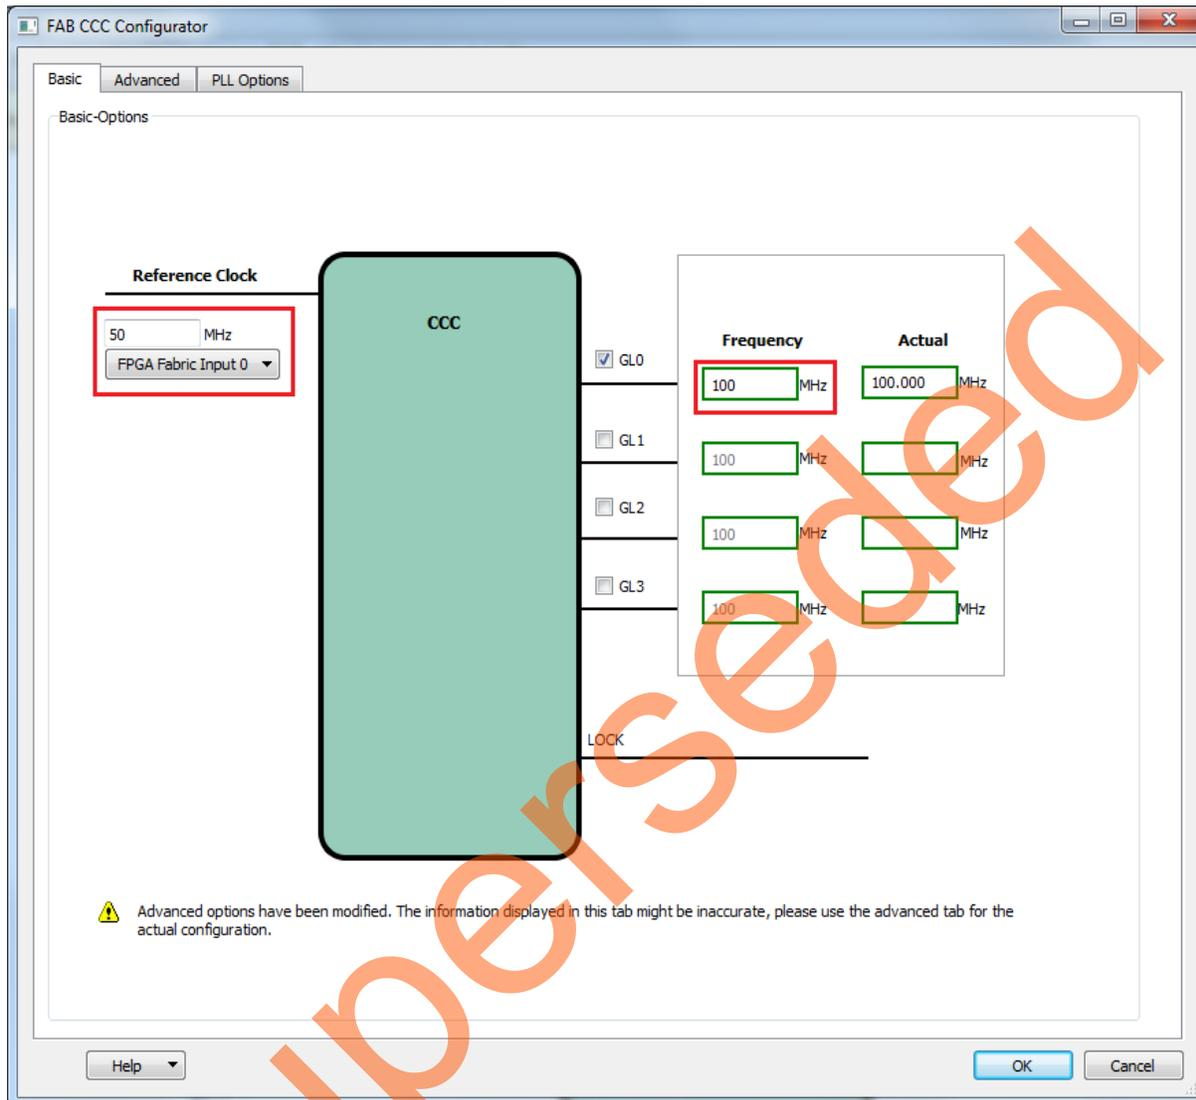

Figure 27 • Configure CCC
3. Double-click **CCC** to configure it. Figure 27 shows the **FAB CCC Configurator** window.